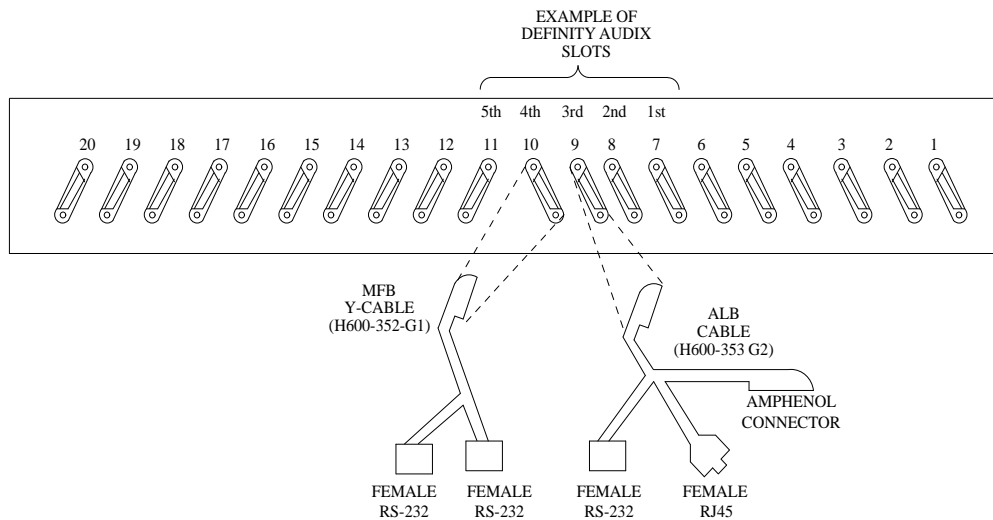

Figure 2-1. Connecting the Adaptor Cables Rear-Panel View
The slots are numbered from left to right on the front panel of the switch cabinet, and from right to left on the rear panel as shown in Figure 2-1, *Connecting the Adaptor Cables Rear-Panel View*. The five port slots are occupied by the DEFINITY AUDIX system assembly as follows:
3. Referring to Figure 2-1 and Steps 3a and 3b below, connect the DEFINITY AUDIX system assembly adaptor cables to the port connectors on the back of the switch.